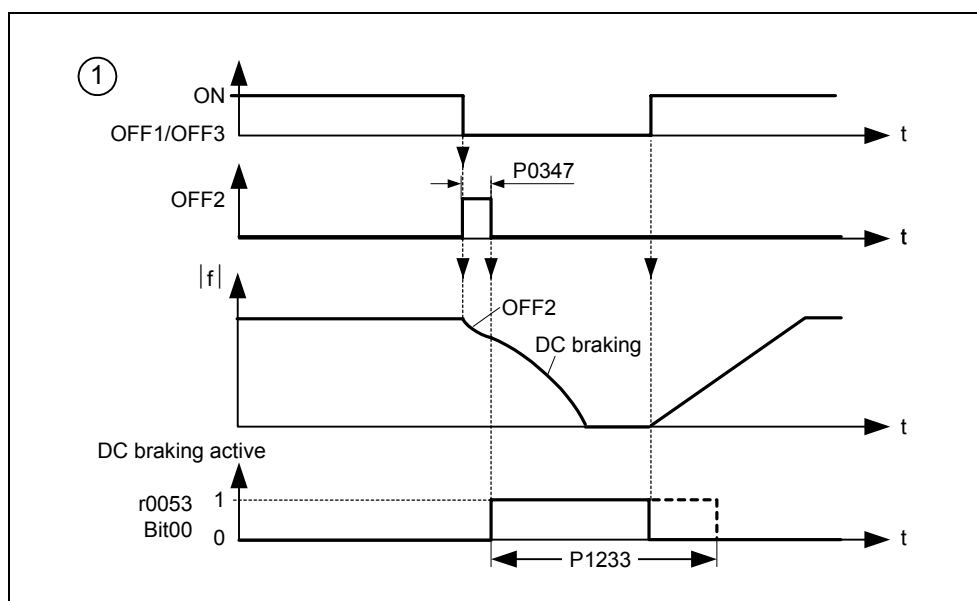

Fig. 3-63 DC braking after OFF1 / OFF3
2. DC braking is activated with the OFF1 or OFF3 command (refer to Fig. 3-63)